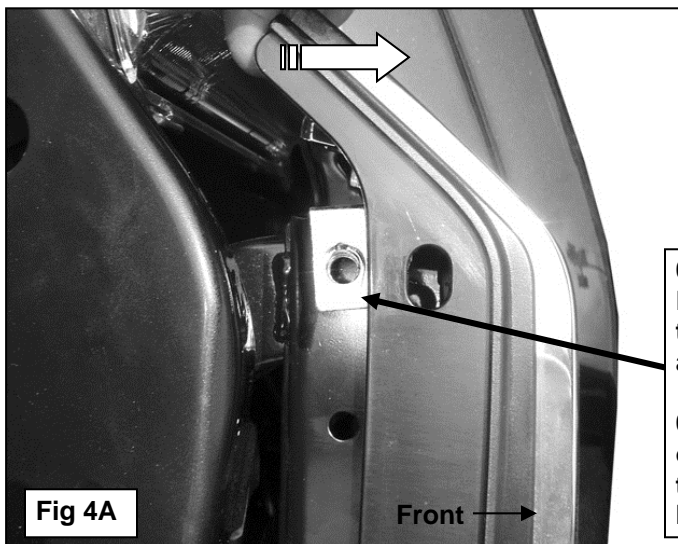

Fig 4A
09-10 Models: Gently pull the plastic grille forward to access the metal tab on the driver side of the crossmember. Select (1) 8mm Clip Nut and slide it onto the metal tab with the threaded hole below the metal tab, (**Figure 4A**). Line up the center of the Clip Nut with the hole in the metal tab and move the grille back into position. Attach the **Short Top Bracket** to the Clip Nut with (1) 8mm x 25mm Button Head Bolt, (1) 8mm Lock Washer and (1) 8mm Flat Washer, (**Figure 5**). Snug but do not tighten hardware at this time. Repeat this step for passenger side Top Bracket installation.